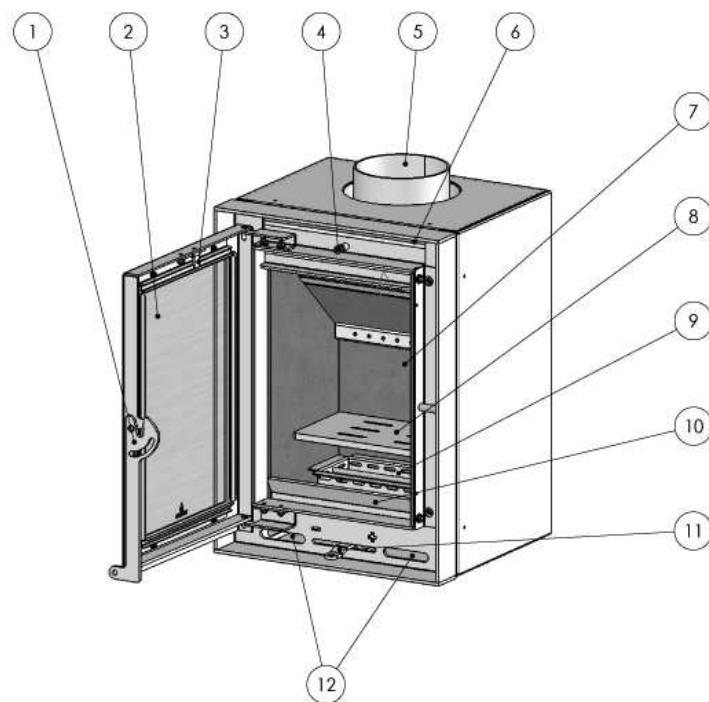

Figure 3: Operation Unilux-3 40
6.2. GETTING THE FIRE GOING (Figure 3 and 4)